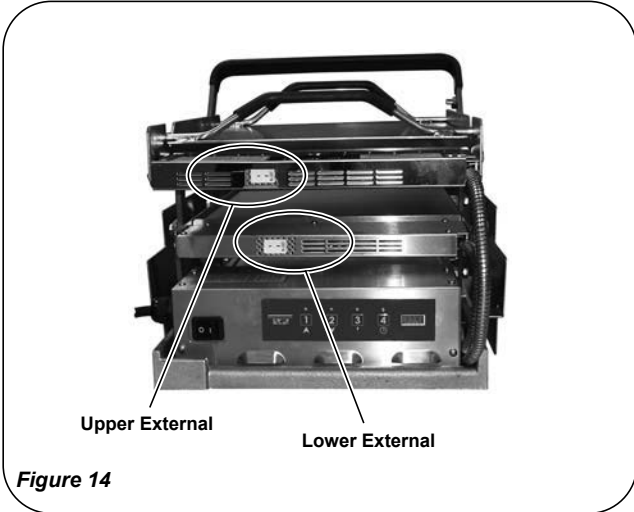

Figure 14
NOTE: Yellow Type K Thermocouple mini-jack temperature ports are located on the back of the 248-BCC Model, behind each of the two platens. (See Figure 14.)
*NOTE: A yellow temperature port is located on the back of the 247-ACC Model, behind the platen (same as the Lower External Port in on 248-BCC Model figure above). (See **Figure 14**.)*